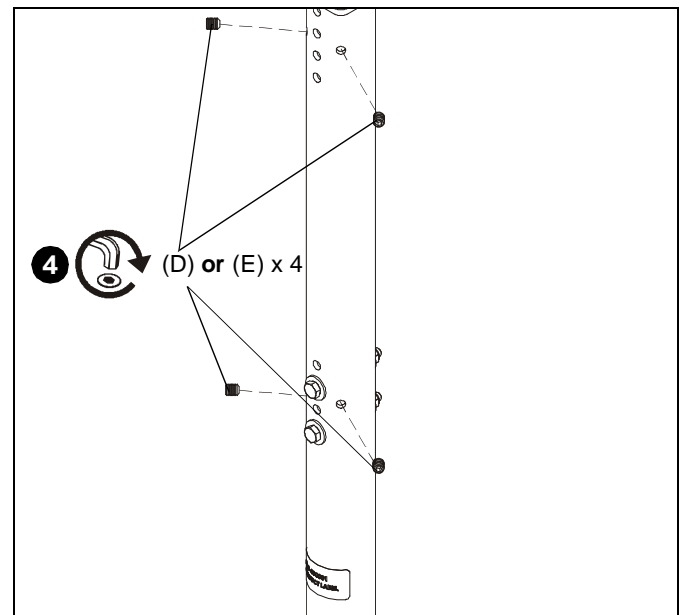

Figure 5
4. Install four 5/16-18 x 3/8" set screws (D) into offset holes near the bolt holes used in Step 3. (See Figure 5)